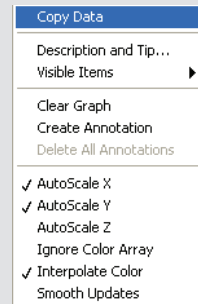

Figure 7.8 Use the Copy Data feature to copy images to the clip board for use in other applications
2. Select Copy Data (Figure 7.8).